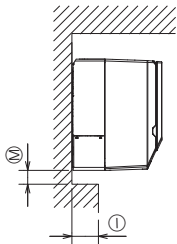

Fig. 2-2
- ① When the projection dimension of a curtain rail or the like from the wall exceeds 60 mm, 2-23/64 inch, extra distance should be taken because the fan air current may create a short cycle.
- Ⓜ Refer to Fig. 2-2